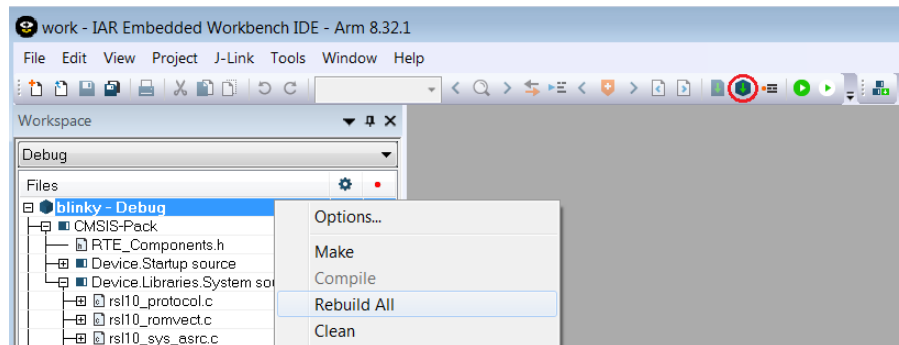

Figure 34. Starting to Build a Project in the IAR Embedded Workbench
1. Right click on the folder for blinky and choose **Rebuild all**. Alternatively, you can use the icon shown in Figure 34.